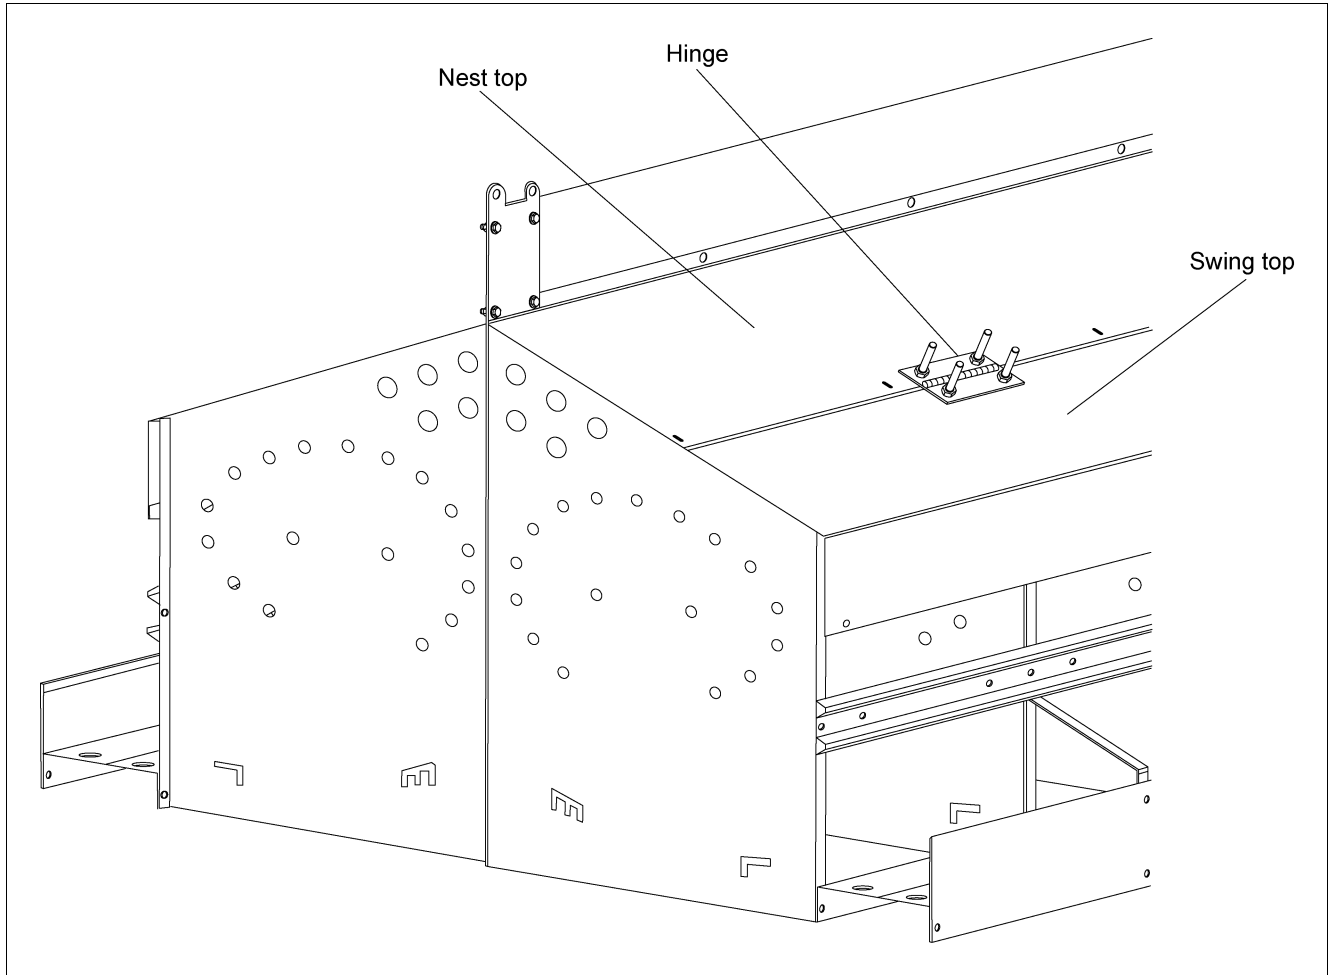

Figure 4J Swing Top Assembly
7. Secure three (3) hinges per side to nest tops using two (2) **S-7060 (3/16" rivet diameter, 7/16" long aluminium rivets) aluminium rivets** per hinge. Using the same rivets, secure the swing top to the hinge. Note hinge and rivet placement. (See Figure 4J.)